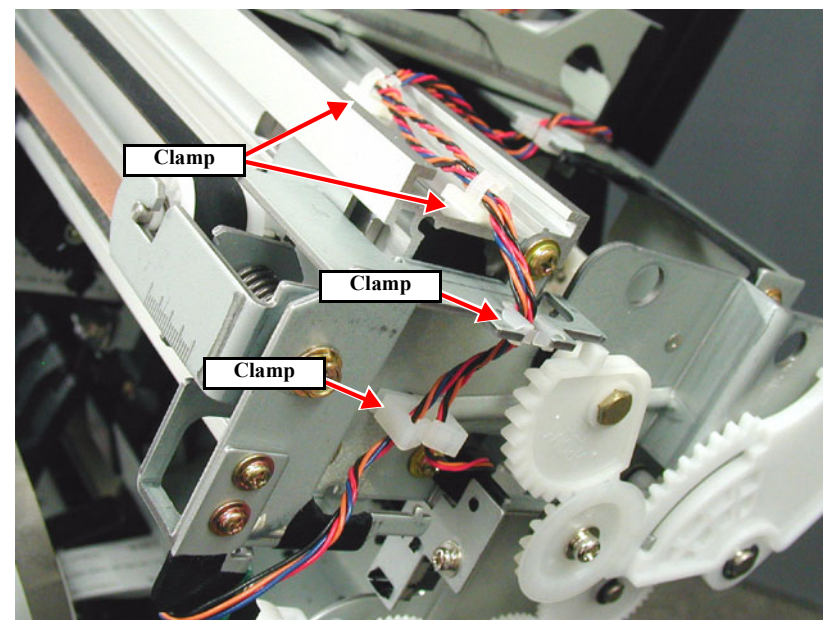

Figure 4-46. Releasing the CR_HP Sensor ASSY Harness
3. Release the harness of the CR_HP Sensor ASSY from the four clamps on the printer body. (See *Figure 4-46*)